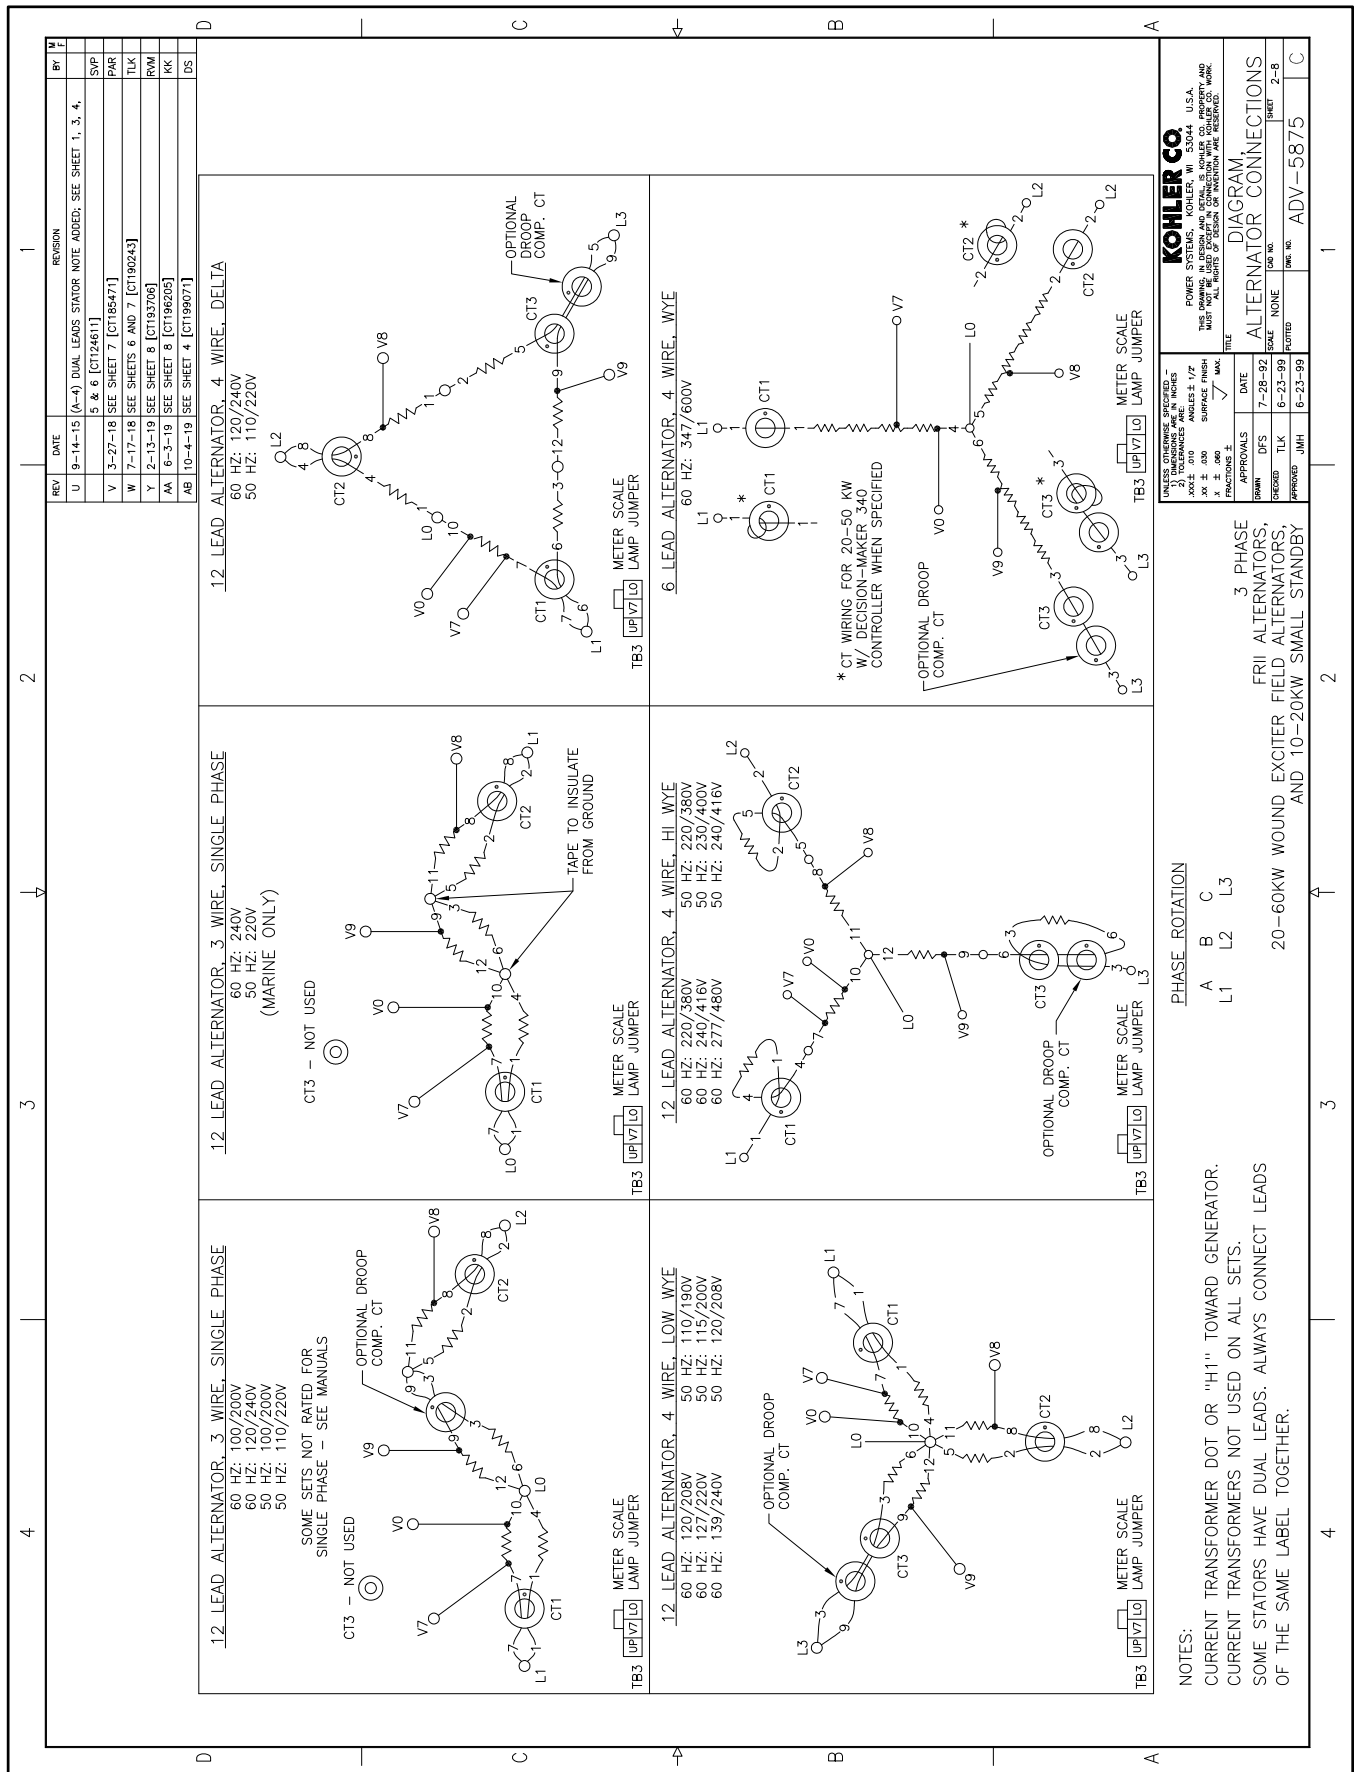

Figure 57 20- 300 kW Permanent Magnet Alternators, ADV-5875AB-2
3. Use Figure 56, Figure 57, Figure 58, or Figure 59 to determine the generator set voltage configuration. Note the original voltage and reconnect as needed. Route leads through current transformers (CTs) and connect them according to the diagram for the desired phase and voltage.